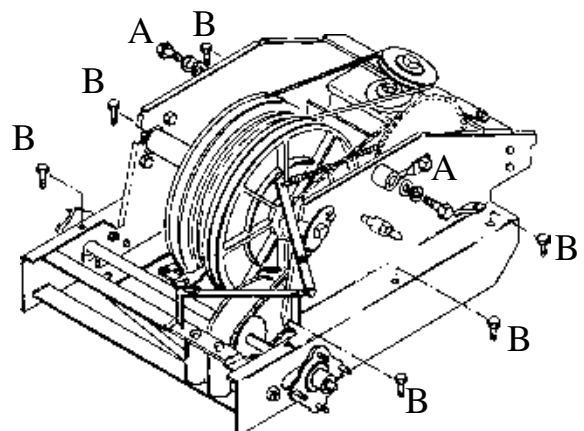

Figure 6.9 Auto-Drive unit
9. Remove the two top alignment bolts and washers (A) from near the top of each side of the chassis. Figure 6.9.
10. Remove the three retaining bolts (B) from each side of the chassis's bottom flange. Figure 6.9.